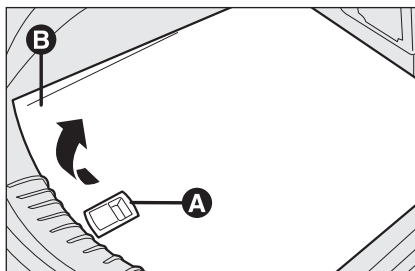

fig. 2
- ☐ Using handle **A-fig. 2**, lift the stiff cover **B**;